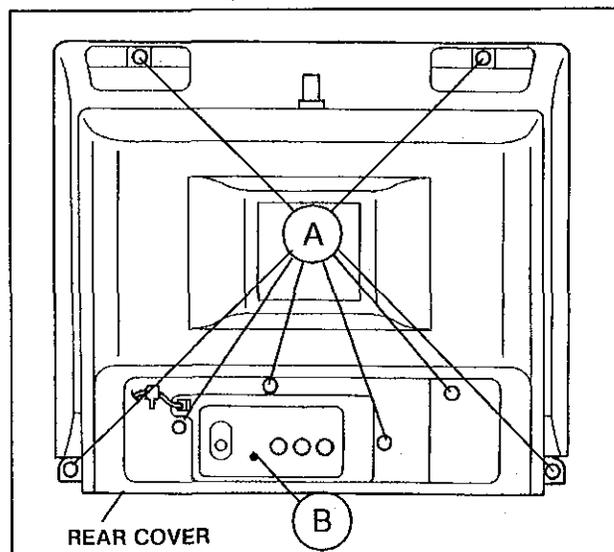

Fig. 1
2. Remove the eight screws marked Ⓐ as shown in Fig. 1.
1. Remove the screw marked Ⓑ as shown in Fig.1.